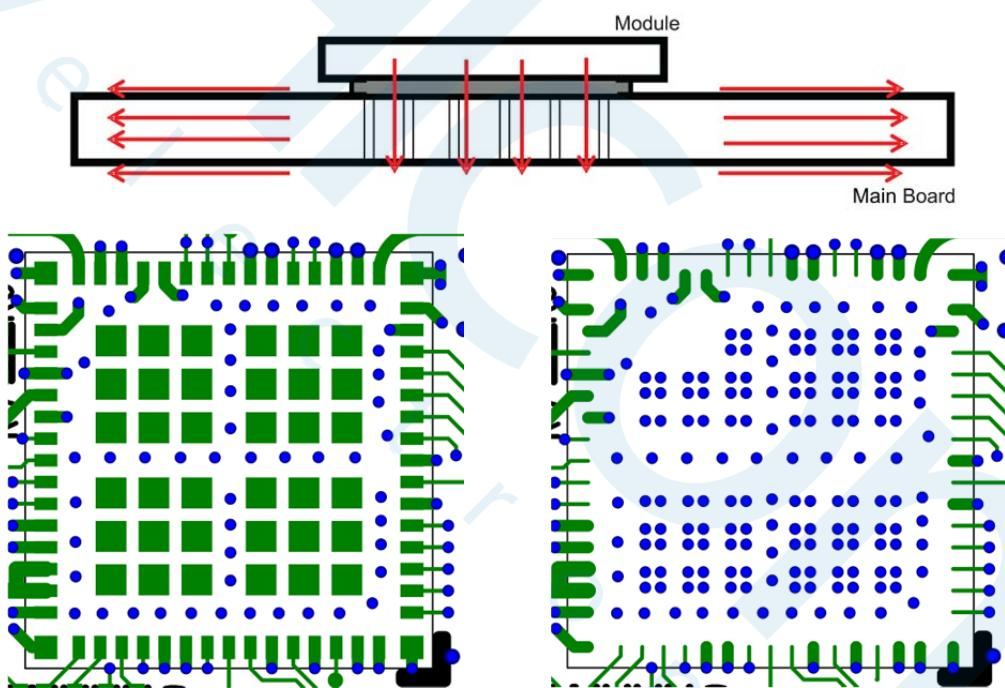

Figure 9-3 Block of Ground Pads on Bottom Side of Package
- The module uses μ vias for layers 1 through 6 with full copper filling, providing heat flow all the way to the module ground pads. We recommends using one big ground pad under the module with vias all the way to connect the pad to all ground layers (see Figure 9-3).